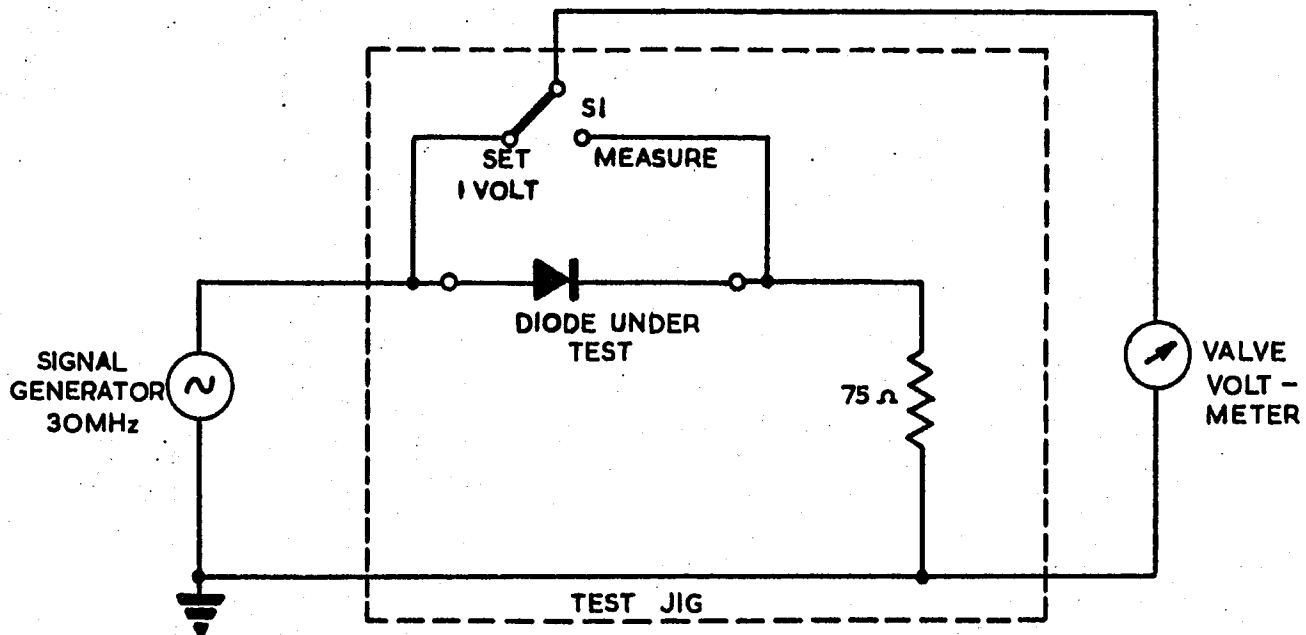

Fig. 22.2
- (1) Signal source capable of providing a signal at 30 MHz at a level of 1 volt.
- (2) Test jig (Fig.22.2) having a socket to accept an a.c. probe, a Belling-Lee co-ox. socket, two test clips and a single pole double-throw switch for changing the function of the valve voltmeter.
- (3) A valve voltmeter capable of measuring at 30 MHz, with ranges of 0 to 300mV (for diode test) and 0.1V (for set level) and fitted with an a.c. probe to fit the test jig.
Connect the equipment as shown in Fig.22.2, but without a diode connected and with S1 set to "measure", so that the voltmeter can be zero set. Place the diode to be tested into the clips, ensuring that it is round the same way as shown on the jig, put the voltmeter on the 1 volt range and turn S1 to "set level". The meter is now monitoring the signal level which should be set to 1 volt. Turn S1 back to "measure" and put the voltmeter on the 300mV range. Note the reading.